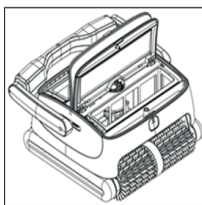

Figure 2
- The top cover opens automatically (see Figure 2).